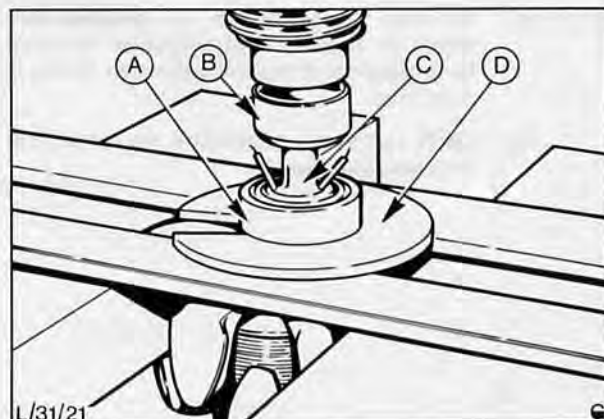

Fig. 16. Removing the slip ring end bearing
6. Support slip ring end bearing with a large washer, incorporating a cut out to accommodate the rotor shaft, and press bearing from shaft, Fig. 16.